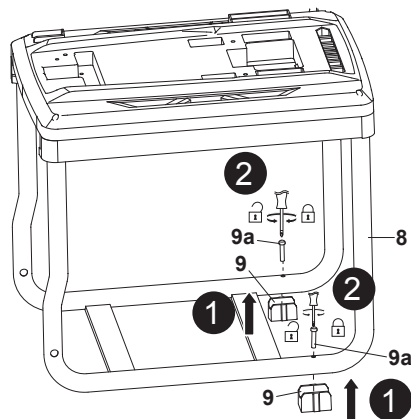

Fig. 1
1. Align the bottom mounting holes of foot support (9) and the frame (8) (Fig. 1, step 1).
2. Tighten the long screw (9a) clockwise through the mounting hole with a suitable crosshead screwdriver (not supplied) and secure the connection (Fig. 1, step 2).
3. Repeat the assembly on the other foot support (9).